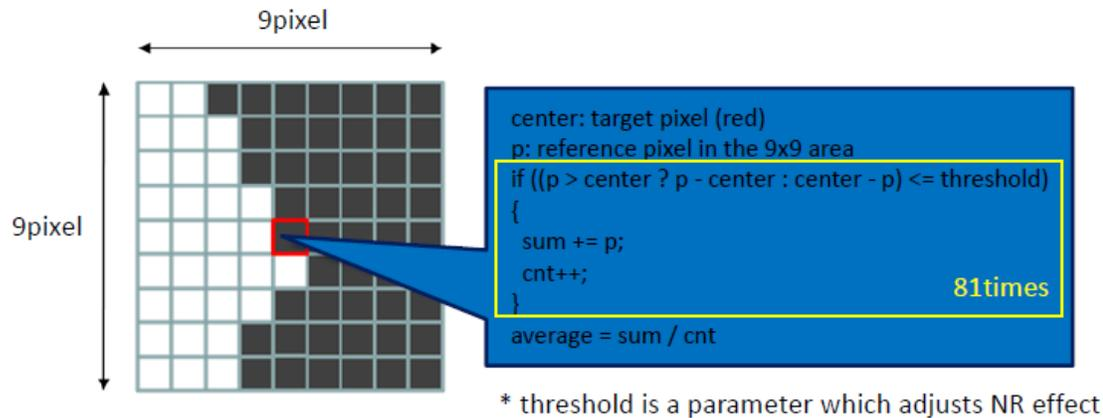

Figure 9-1 Epsilon filter algorithm
In this implementation, the Epsilon filter is applied only on the intensity (Y) component of YUV images, as the noise is mainly visible in there. Also, it is assumed that the Y component is consecutively stored (NV12 format), which is separated from the UV component. There are two basic steps as illustrated by Figure 9-1.